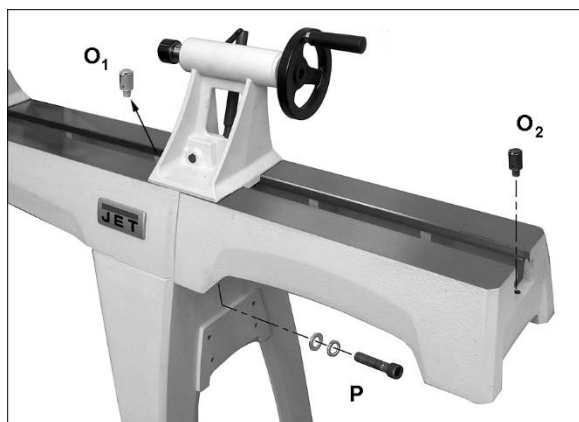

Figure 5-6: installing bed extension (optional)
1. Unscrew stud (see O, Figure 5-6) from each end of bed. (Note: studs can be stored in one of the threaded holes in lathe legs.)
8. Install headstock, tool support and tailstock, and both studs (O, Figure 5-6).
2. Have an assistant hold bed extension flush to end of lathe bed, and insert screws and washers provided with bed extension (P, Figure 5-6). Snug screws just enough to hold bed extension to lathe bed.
5. Slide tailstock over joint where beds meet, so that clamping nut is centered over joint, as shown in Figure 5-6. Lock tailstock clamping handle; this will align the beds.
6. Securely tighten screws (P) in bed extension.
To remove headstock, tailstock or toolrest base from bed, unscrew and remove either of the studs (see O, Figure 5-6). Unlock the item and slide it off bed. After remounting these items on the lathe, reinstall studs.